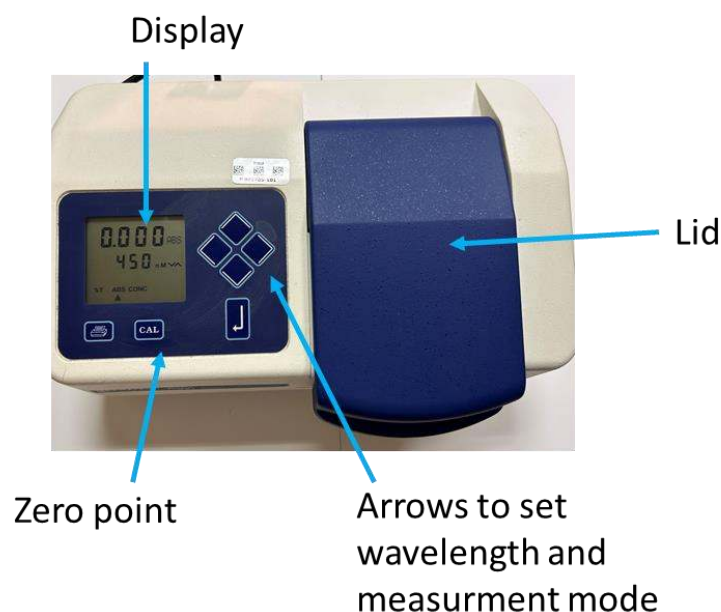

Figure 4.2. - spectrophotometer
2. Check if the Absorption is measured, indicated by ABS on the display. If not, use arrows pointing left and right to switch to the absorption mode (Figure 4.2.).